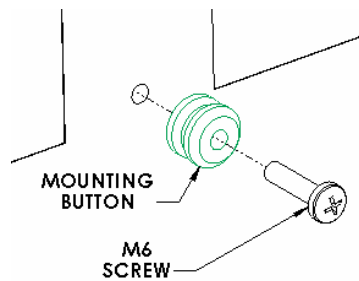
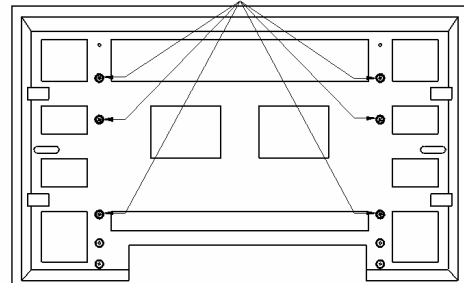

Figure 3
Figure 4
2. Attach mounting buttons to the display using six M6 x 25 cap screws provided (see Figure 3 & Figure 4). If a media box or tuner is attached to back of screen, place nylon washer under button and use longer M6 screws.